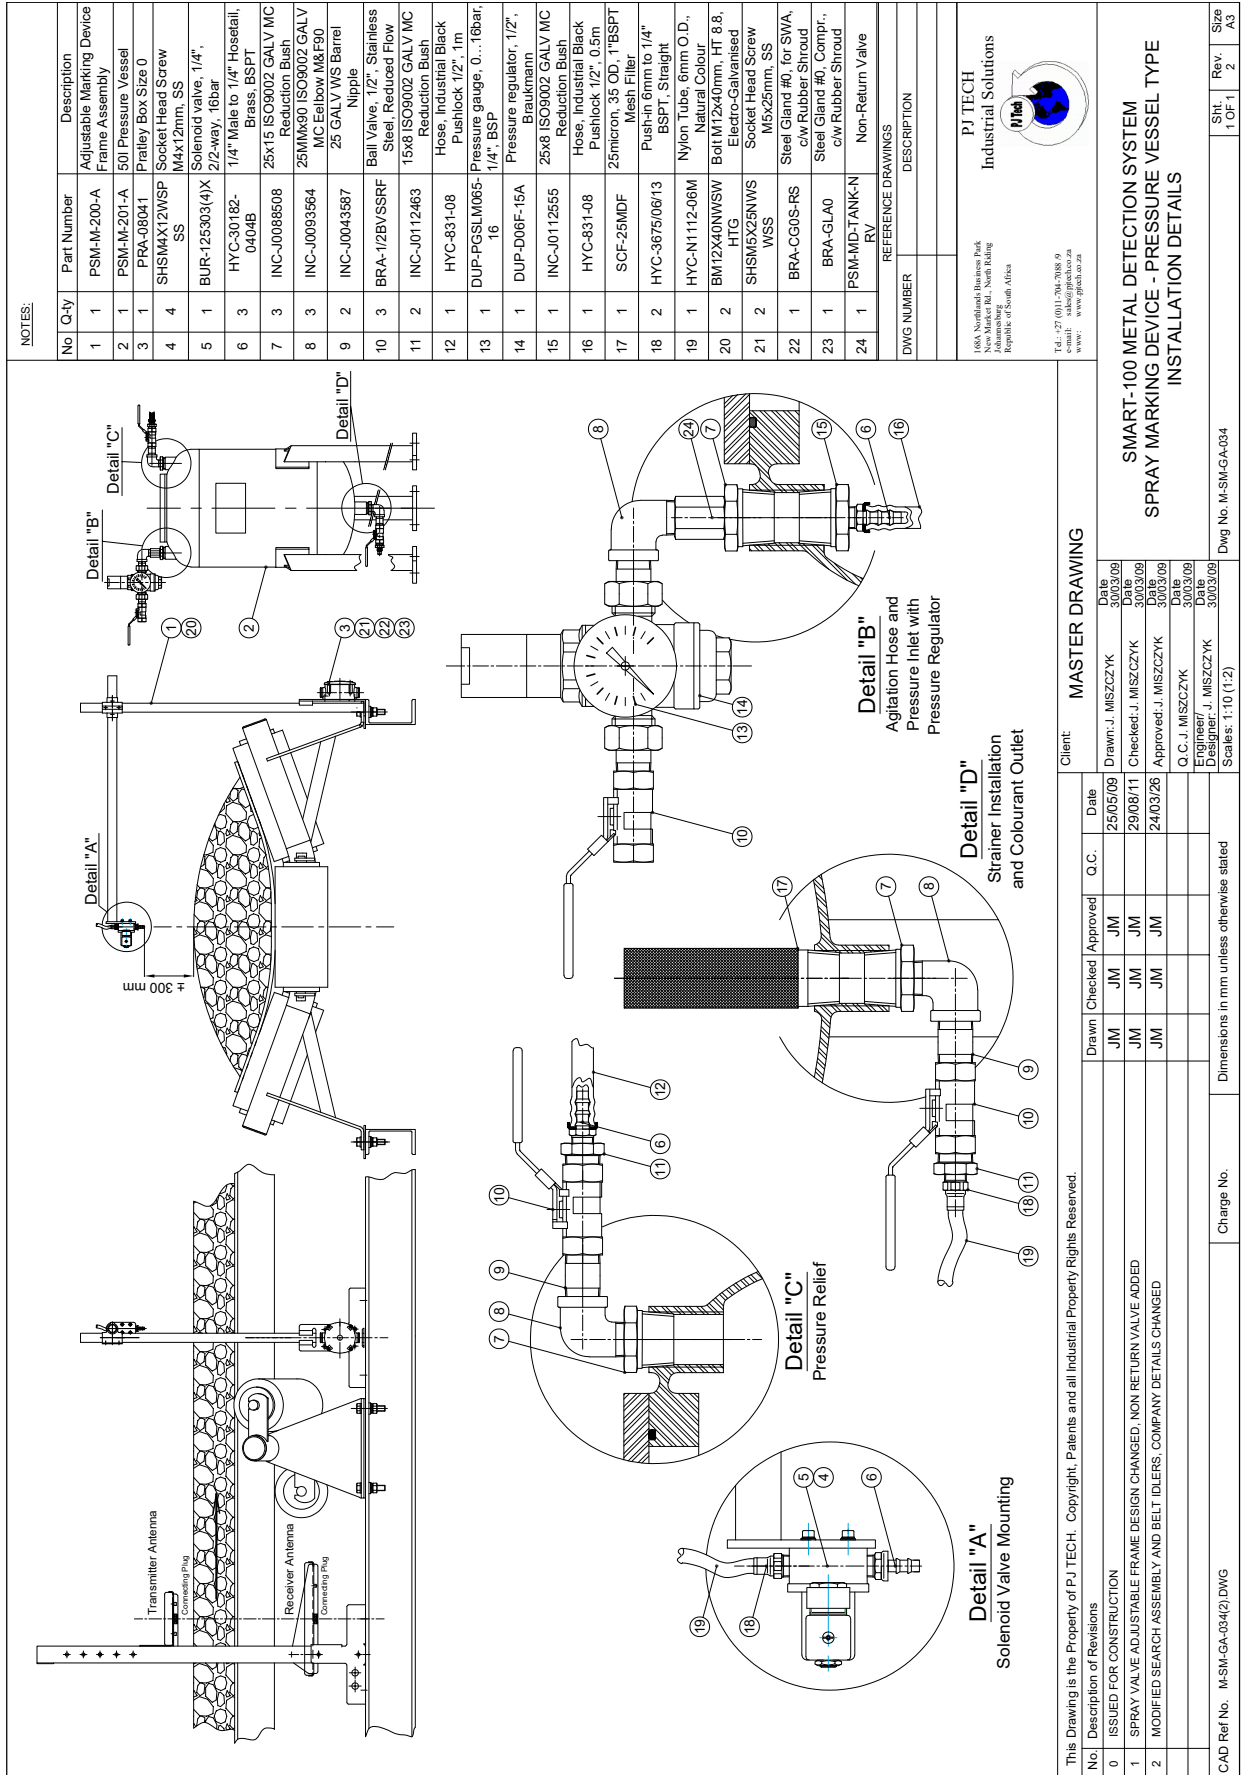

Figure 20
- A) Refer to Figure 20 for installation detail and Figure 23 for connection diagram.
- B) Assemble the Marking Device Adjustable Spray Frame (1) upright and cross arm with the cross bracket.
- E) Position the Adjustable Spray Frame upright and cross arm as shown (1). It should be located approximately 1m to 2m from the antenna coils. Bolt the bottom of the Adjustable Spray Frame to the conveyor frame. If necessary, first clamp it in place temporarily.
- F) Connect the cable between the Pratley box (3) and the field terminals in the Main Control Enclosure (10m SWA, 1mm², 1 pair cable provided). Route the cable accordingly and cut off excess cable.
- G) Connect the tubing between the tank outlet (19) and the solenoid valve (5). Ensure that ½” isolation valve is also mounted at the vessel’s outlet (Detail “D”).
- H) Mount ½” non-return valve (24) and pressure regulator with pressure gauge (14&13) on the vessel’s air inlet and connect compressed air source to the isolation valve as shown. **Ensure that the air source is shut off and there is no pressure is in the vessel.**
- J) Remove the vessel’s lid and ensure that the 1” 25-micron S/S strainer (17) is screwed in (inside the vessel, at the bottom). This strainer protects the spray solenoid valve from solid particles that might be within the compressed supply airline.
- K) Ensure that ½” rubber reinforced hose (16) is connected to the air inlet and its end rests at the bottom of the vessel. This hose enables agitation of the spray solution with each air intake as well as ensures a consistent spray solution.
- A) Refer to Figure 20.